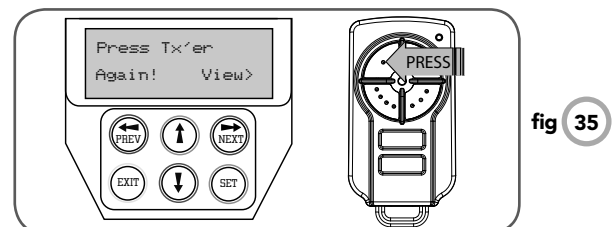

fig 35
3. Press same transmitter button again as prompted by display **(Fig. 35)**.